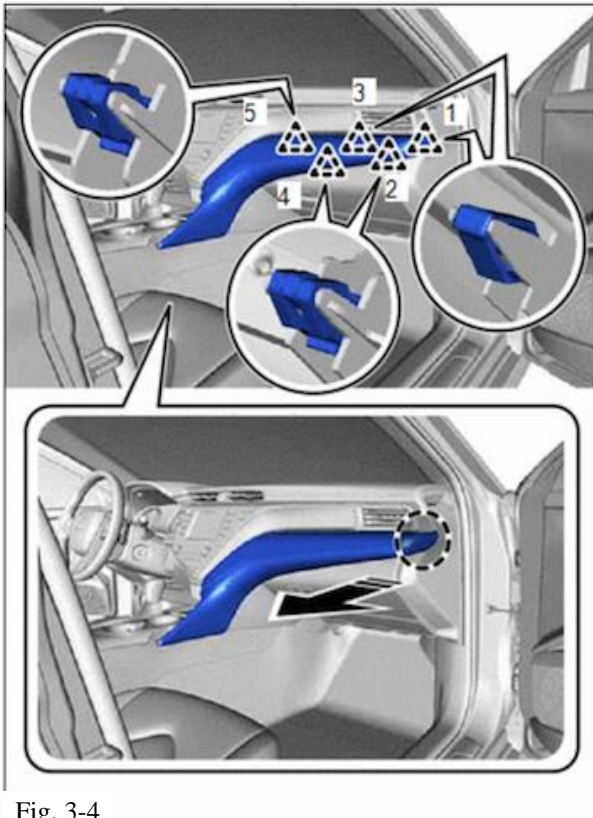

Fig. 3-4
(1) Disengage the 5 clips in the order shown (Fig. 3-4).